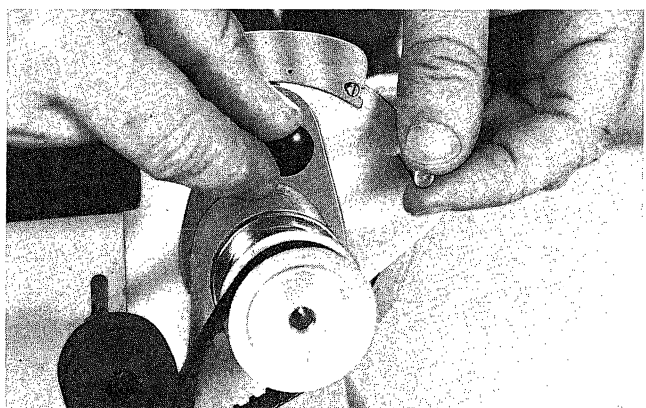

Figure 15
1. Loosen the black set screw knob on the back side of the thickness scale as shown in Figure 15.
2. With the left hand on the metal positioning shaft, as shown in Figures 15 and 16, move the scale until the arrow points to the desired thickness and turn set screw knob clockwise for locking action.